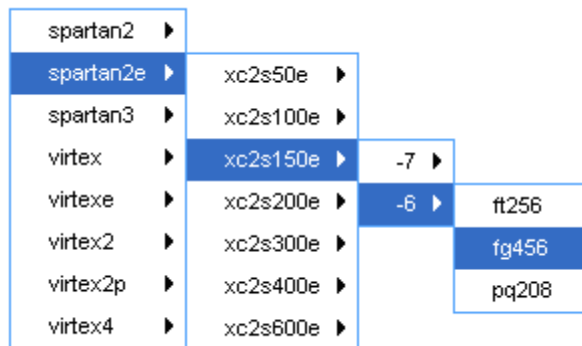

Figure 2: Target device selection
- **Add:** Brings up a menu to select a new device for the board. Devices are organized by family, then part name, then speed, and finally the package type (Figure 2).